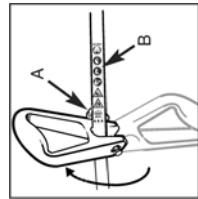

Fig. 1
- Loosen the setting screw and turn the handle up. Set the handle according to the arrow; see the warning label (B), Figure 1.